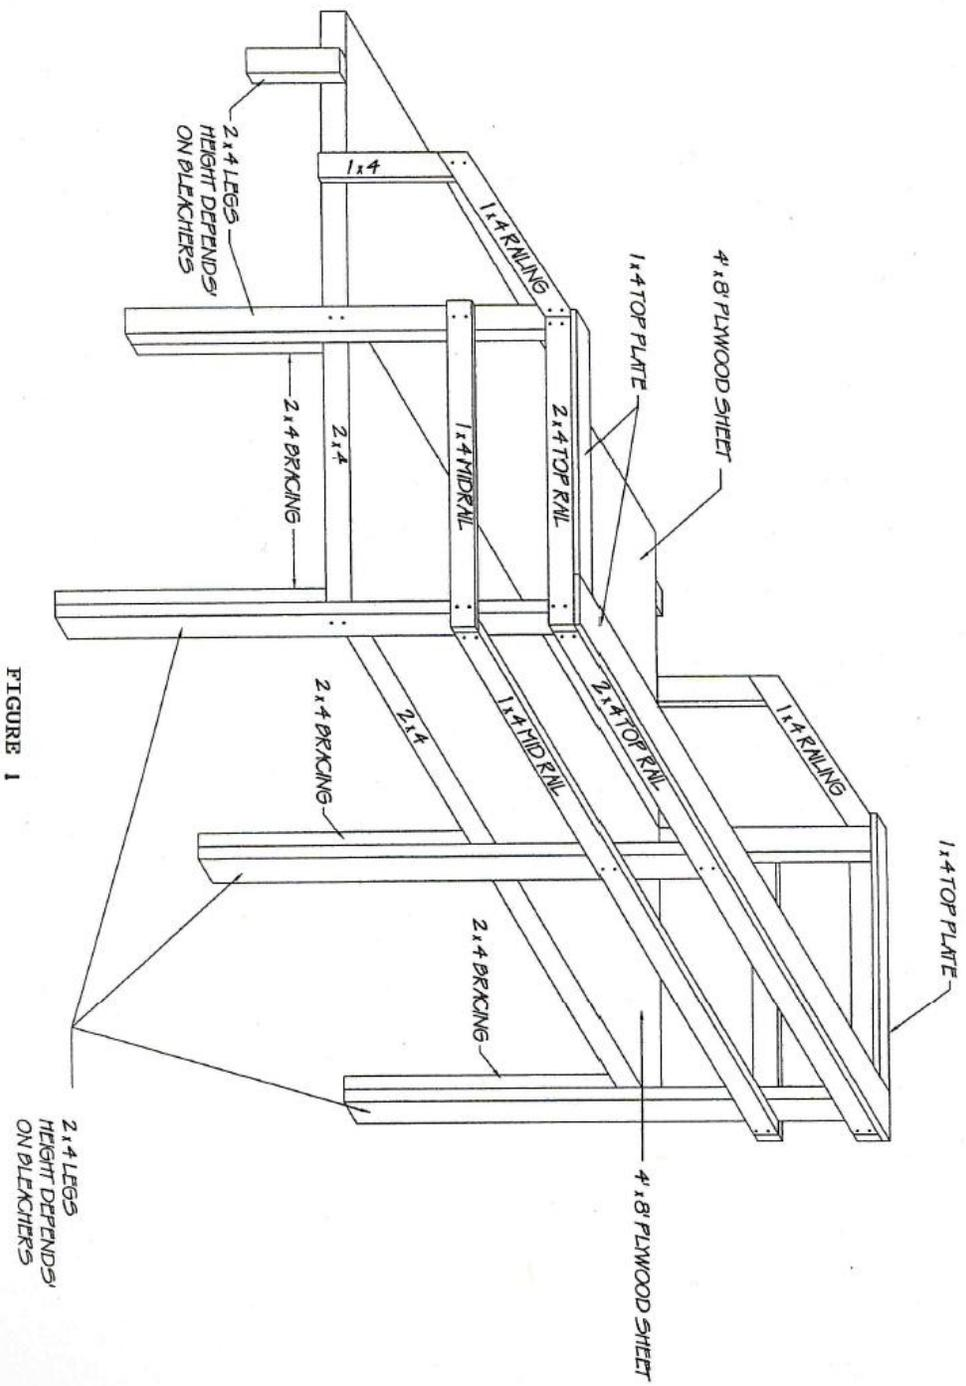

FIGURE 1
Upper handrail side railing support: Using 2x4's cut (2) boards approximately 24" and cut a 45 degree angle at one end. Attach the straight end of the board flush with the bottom of the platform frame 2' from the rear of the platform. This is the support for the handrail. (See Figure 1).
Step 5: Mid rail - Attach (1) 1x4 x8' by laying it flat against the 3 1/2" side of the legs, halfway between the top and the top of the platform floor. Repeat for each side with two 1x4x4' sections.
Step 6: Top rail: Use (1) 2x4x8' and screw onto the front legs. Cut (2) 2x4's 46.25". These will be the side top rails and the railing will fit into the shortened space.